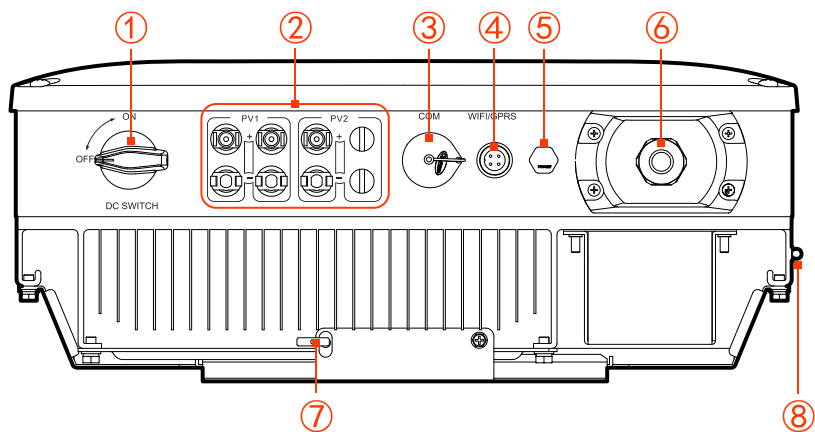

Figure2-5 Bottom view
The external terminals are all located in the bottom of the inverter, including PV input, AC output, communication port and DC switch, etc, as shown in Figure2-5.
DC switch (as shown in Figure2-5 ①) is the connection switch of inverter and PV array.